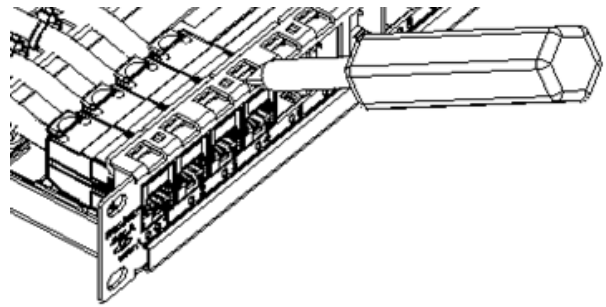

Fig. 13
2. Use screwdriver or similar tool to lift the latch above jack and release jack (See Fig. 13).